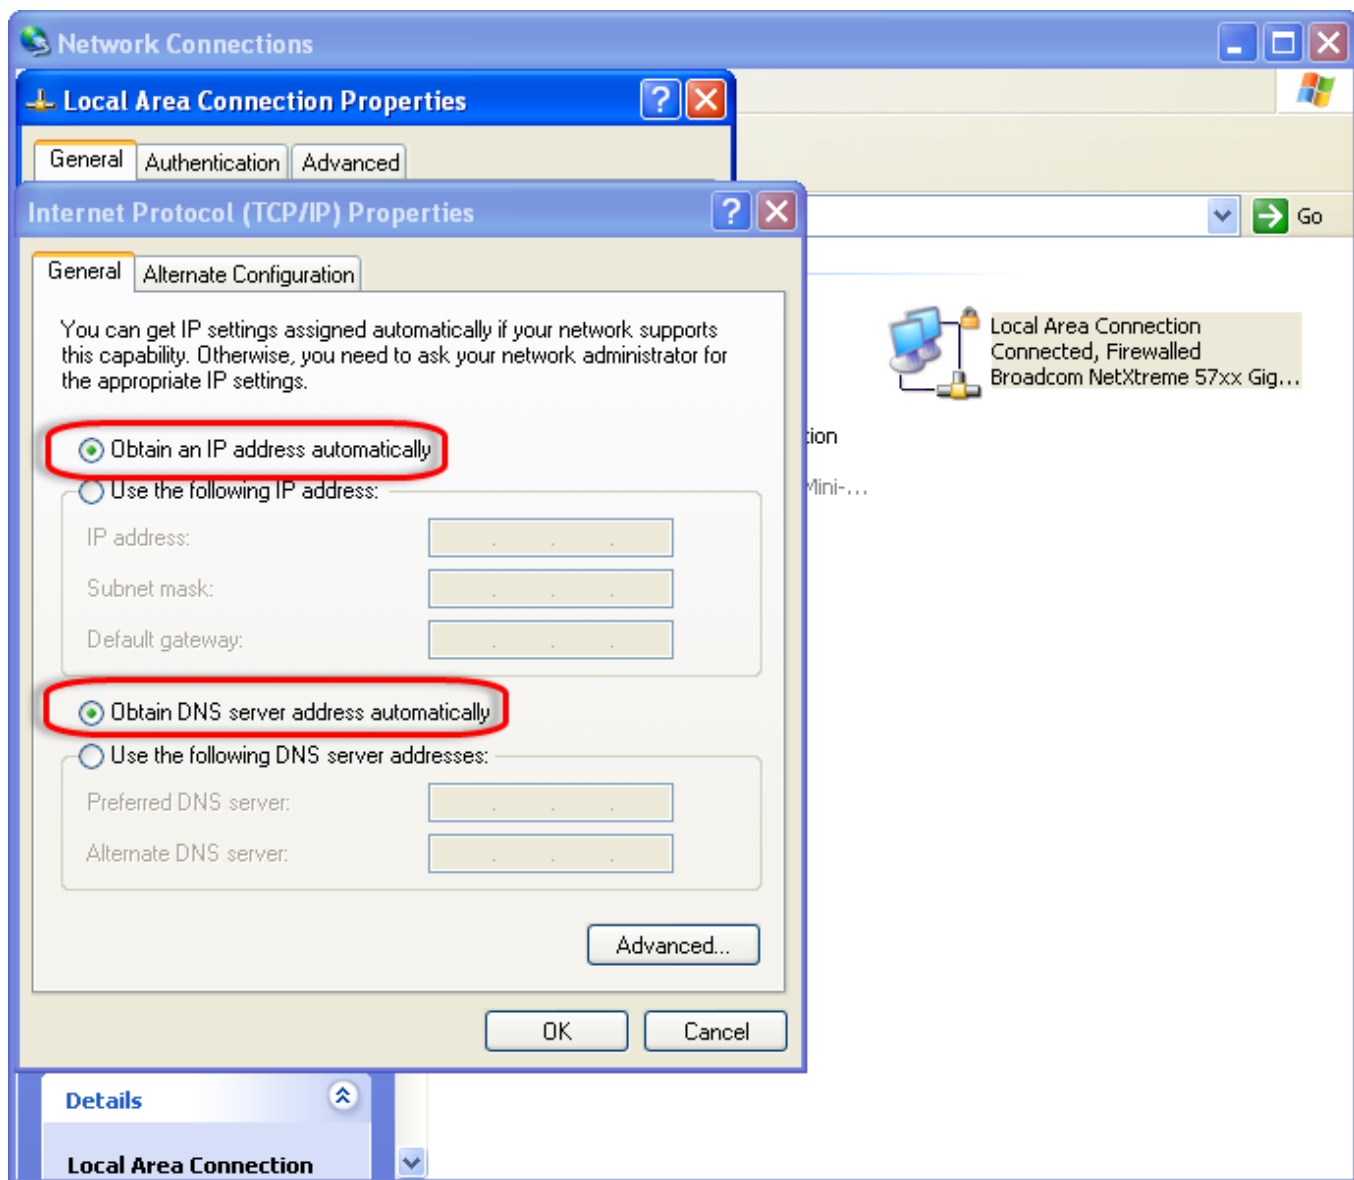

Figure 2-3 Wired access to WebOMT on Slave AU, EU and RU
2. Change the TCP/IP properties (see Figure 2-3):